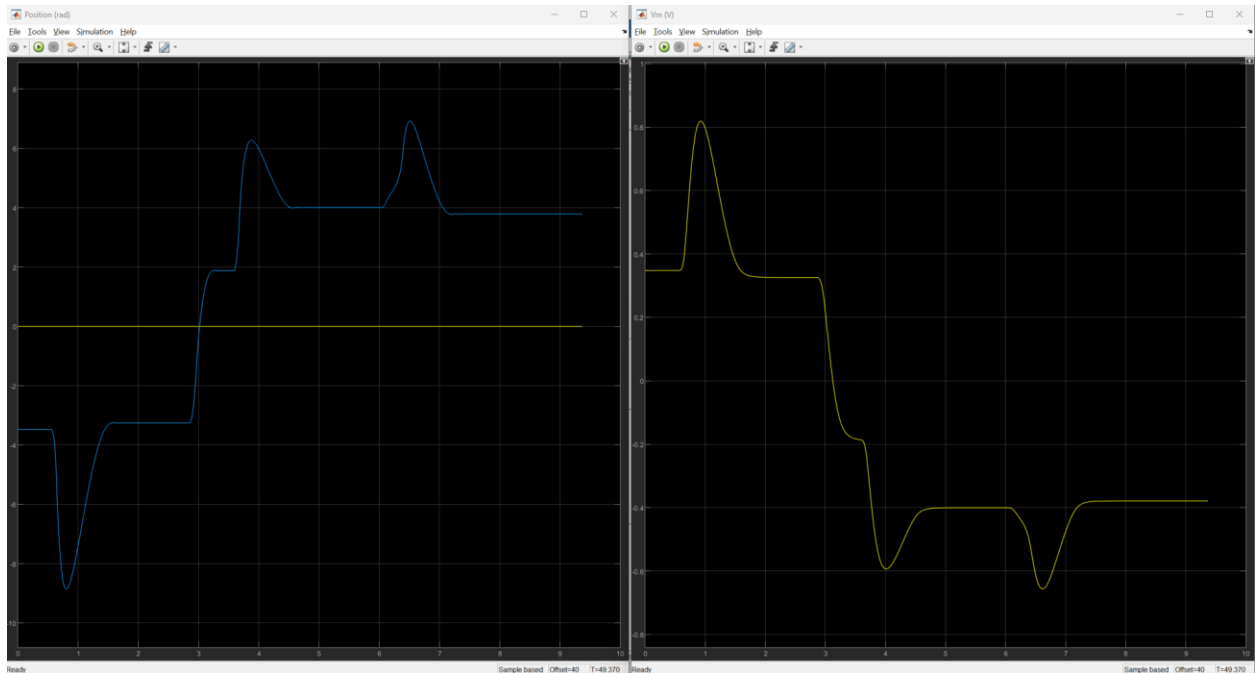

Figure 3: Example response when perturbing the disk with $k_p = 1$.
6. While the controller is running, manually perturb the disc on the Qube-Servo 3 and attach a screenshot of the scopes that represents the behaviour observed. Is the response stable? Is there steady state error once you have perturbed the system? An example response is shown below in Figure 3: